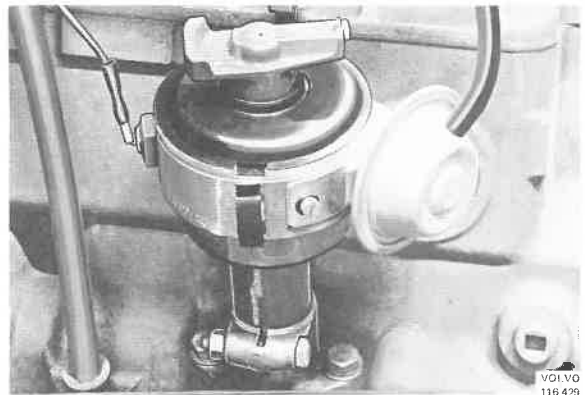

Fig. 34-7. Distributor cap removed
1. Unclasp the lock clasps for the distributor cap and lift off the cap, see Fig. 34-7.